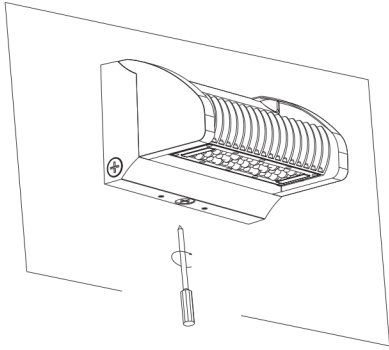

Figure 1-5
5. Fix the luminaire on the bracket and tighten screws. (Figure 1-5)